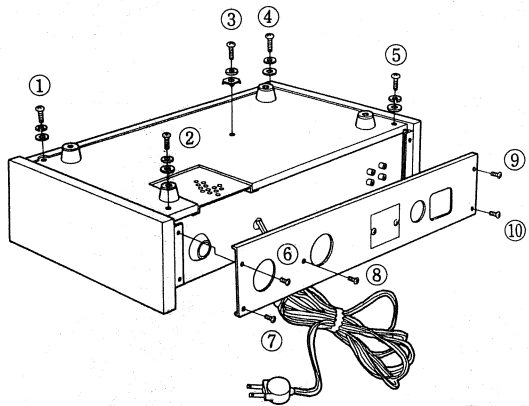

Fig. 6
1. Remove screws ① to ⑤ on bottom panel (Fig. 6).
2. Remove screws ⑥ to ⑩ on rear panel.